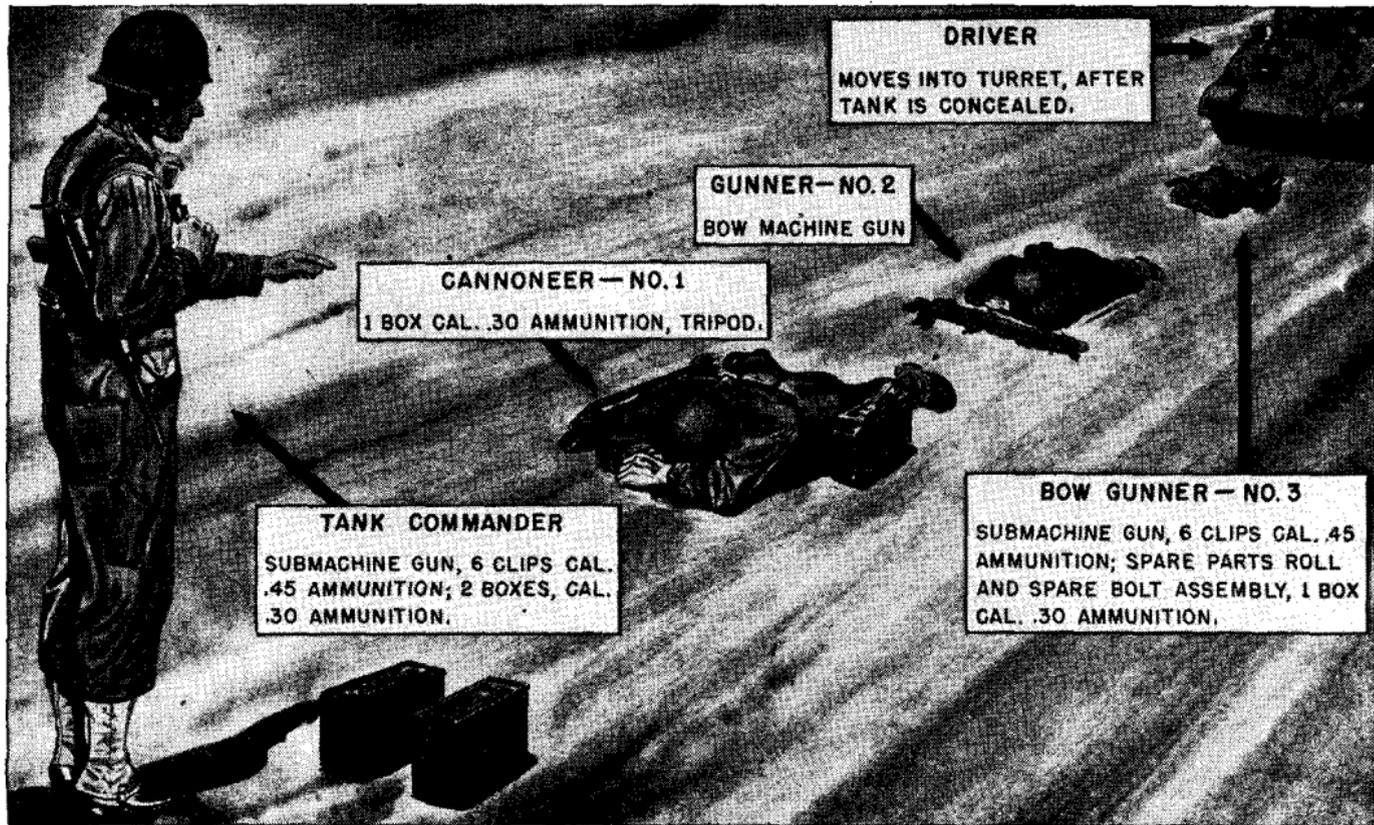

Figure 6. Dismounted action, crew formed for drill (tank commander instructing).
b. The dismounted crew moves to the position indicated by the tank commander or in drill, 5 yards in front of the tank (see figs. 6 and 7). The crew members take the posts and perform the duties of the crew of a ground-mounted machine gun as prescribed for gun drill in FM 23-55.
b. The dismounted crew moves to the position indicated by the tank commander or, in drill, 5 yards in front of the tank (see figs. 6 and 7). The crew members take the posts and perform the duties of the crew of a ground-mounted machine gun as prescribed for gun drill in FM 23-55.